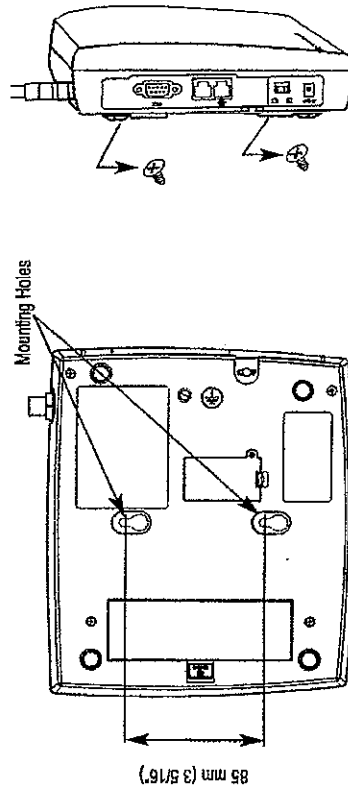

Figure 7 - SX5 mounting holes.
3. Align the mounting holes with the screws and mount the SX5 onto the screws - see Figures 7 and 8.